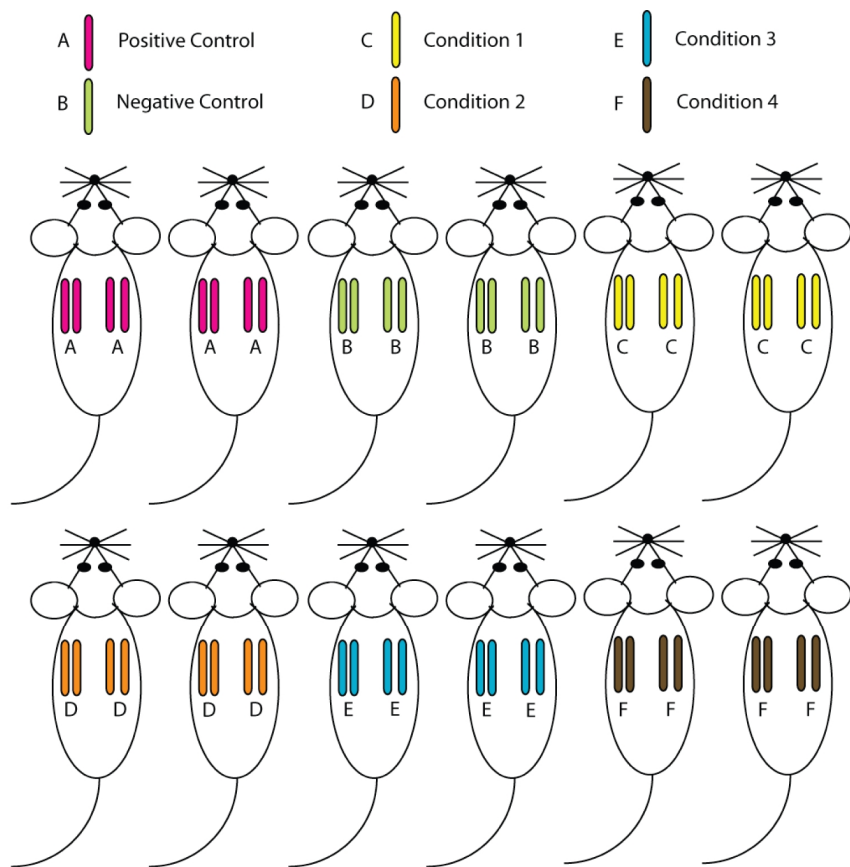

Figure 6. Recommended distribution of angioreactors in mice.
10. Implant angioreactors into the dorsal flank of a mouse with the open end opposite the incision; up to 2 angioreactors may be planted on each side for a total of 4 angioreactors per mouse. See Figure 5 for implantation procedure and closure of the incision. Distribute angioreactors with like pairs in each mouse; see Figure 6 for recommended distribution.
3. Carefully remove the bottom cap of the angioreactors with a razor blade, and using a sterile 200 μ l pipette tip, push BME/vessel complex out of angioreactor into the sterile microtube. See Figure 6 for vascularization in DIVAA™ RGF BME plus angiogenic factors.